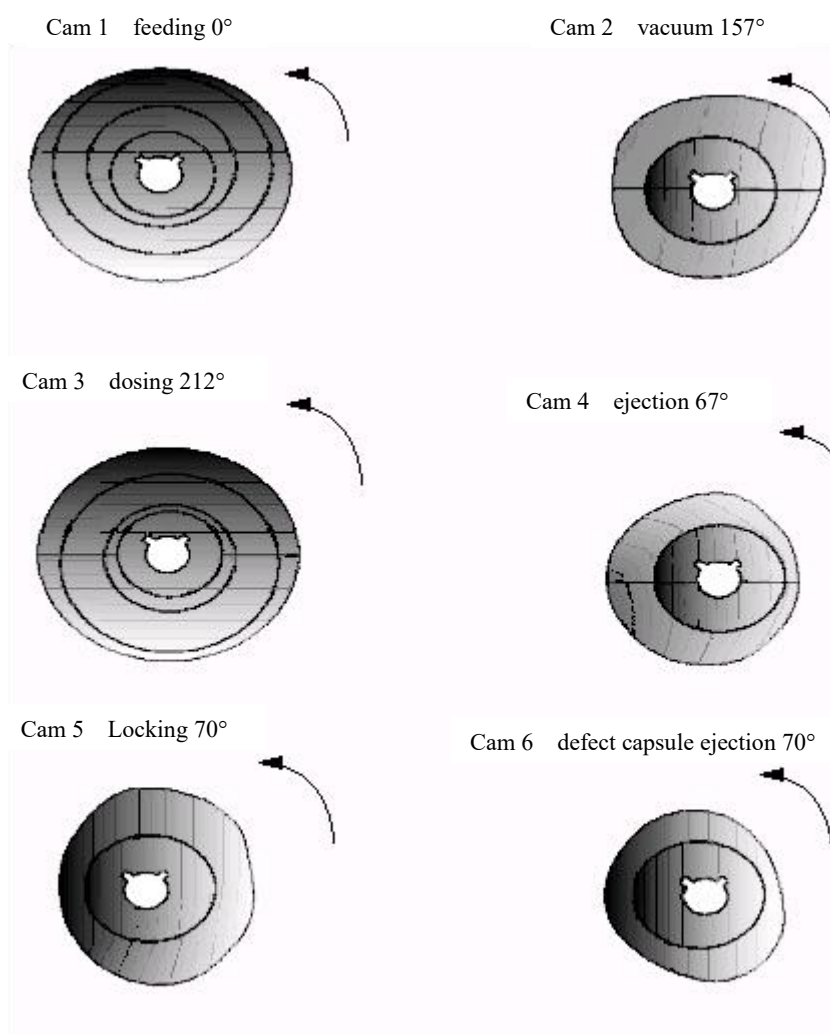

Fig. 31 Angle of Installation of Six Cams on Main Arbor
5.2.13 Adjustment of driving cam (refer to Fig. 31)
The positions of driving cam are regulated at factory before the delivery. Do not adjust these positions in normal condition. Should adjustment be made, carefully adjust in accordance with the angle given by the Fig. 31.